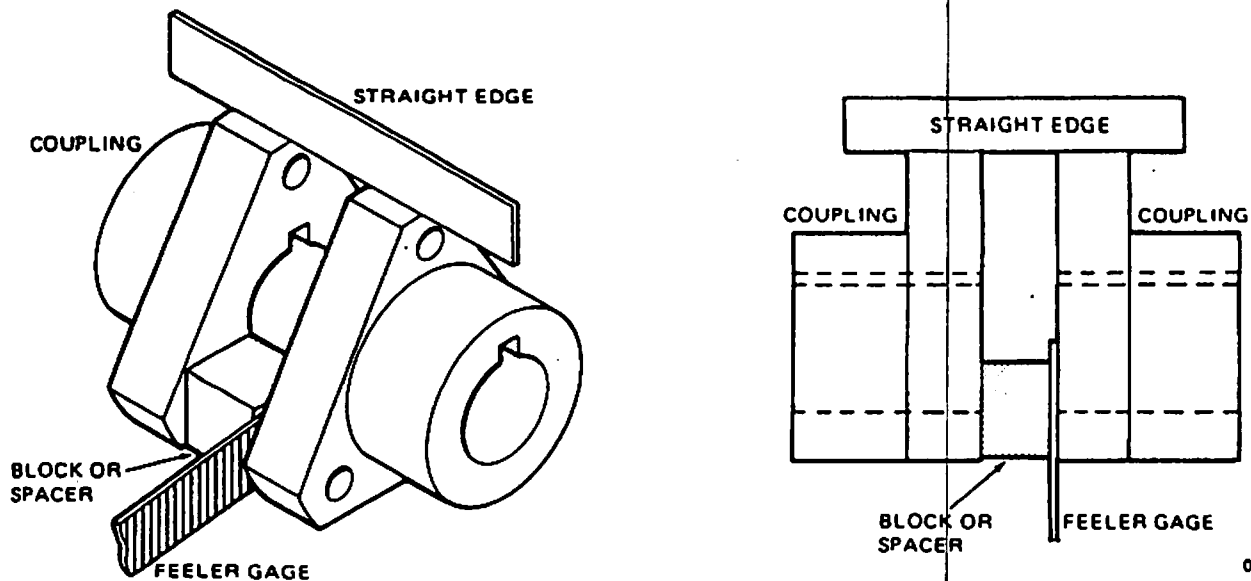

Figure 28 — Coupling Alignment
Refer to Figure 28 for the correct use of the tools needed to align the coupling hubs. (Note: The flexible member must be removed.)
To do this, turn the hubs so that one corner ("ear") of each hub is up. Lay a straight edge across the hubs (See Figure 28) and use a feeler gage to check for clearance between either hub and the straight edge. If the clearance is greater than the maximum clearance allowed (1/32") loosen the motor mounting stud nuts (bolts) and install or remove shims at the motor feet (raise or lower motor) to obtain the correct vertical parallel alignment.
If required, slide the compressor into a position that allows inserting the spacer block and feeler gage between the hubs at all three (3) hub corners. (See Figure 28). Feeler gage "feel" will be equal at